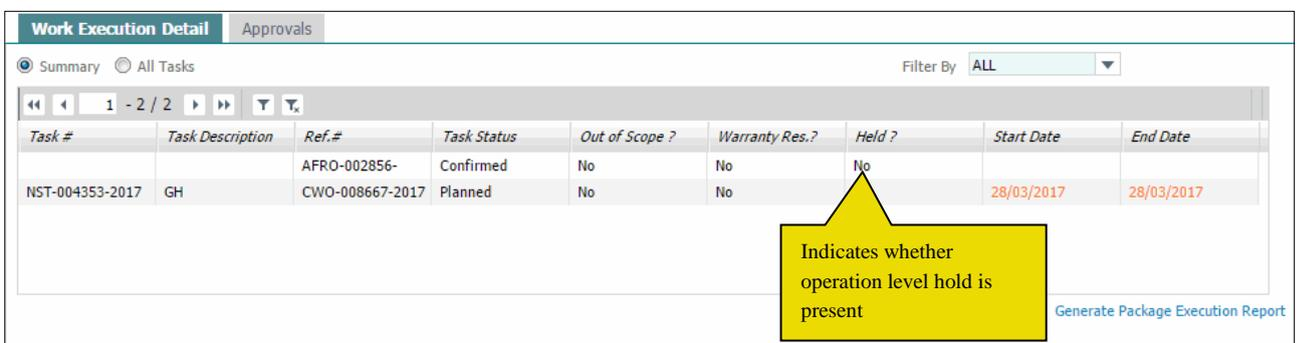

Figure 2.5 Service Sale Orders – Work Execution details
1. Select the **Work Execution Details** tab in the **Service Orders** section of the **Customer Portal** business component. The Work Execution Details tab page appears. *See Figure 2.5.*